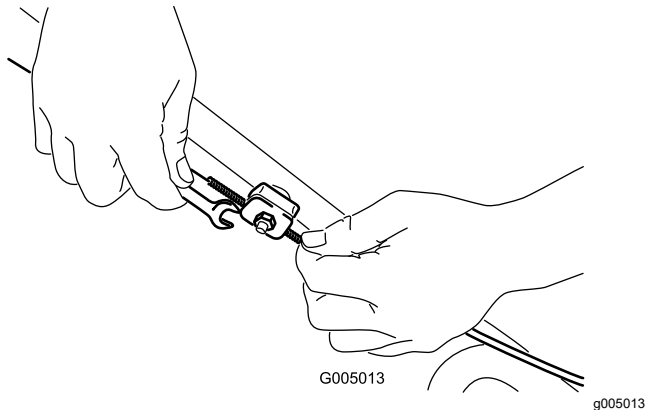

Figure 50
2. Loosen the cable support nut (Figure 50).